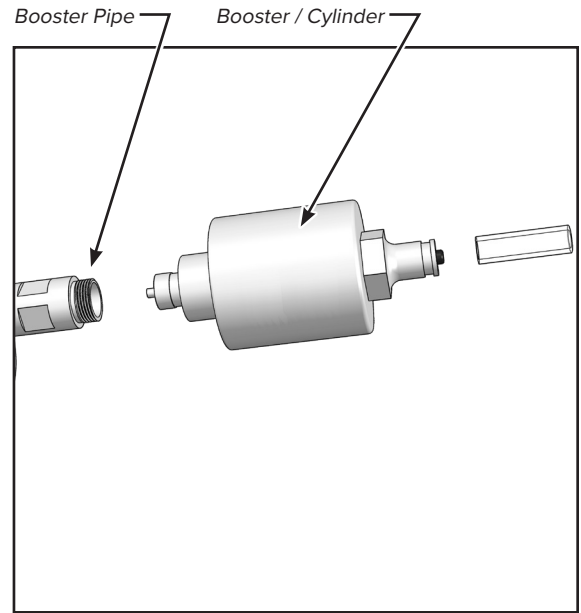

FIGURE 25
3. Un-thread the booster/cylinder from the booster pipe (figure 25).